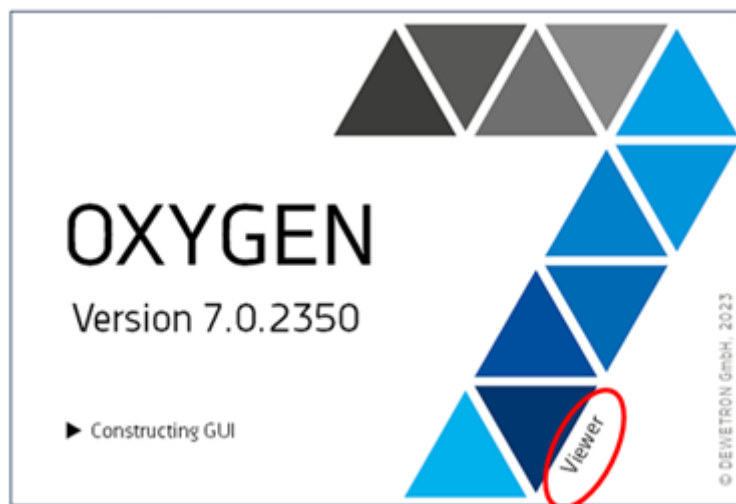

Fig. 3.21: Splash Screen for the OXYGEN Viewer
- When a measurement file is opened, it is loaded using OXYGEN Viewer. Several OXYGEN Viewers can be open in parallel with one OXYGEN instance. To open a measurement file, simply double-click on it, and the splash screen with the addition “Viewer” will open, as shown in Fig. 3.21.